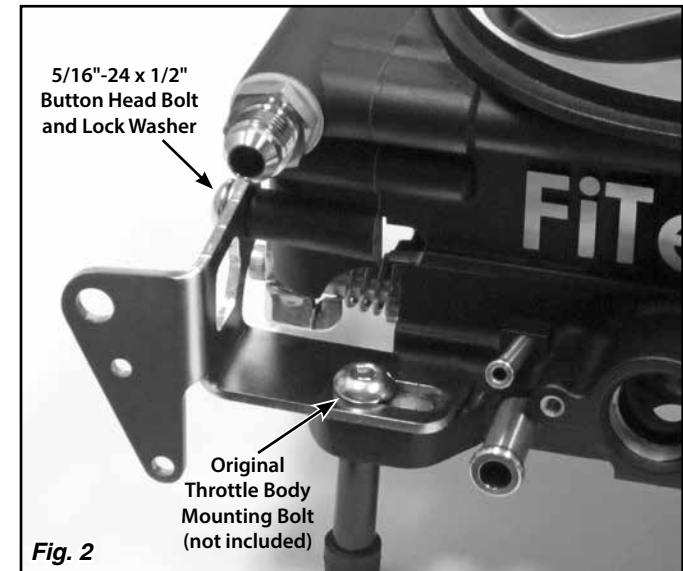
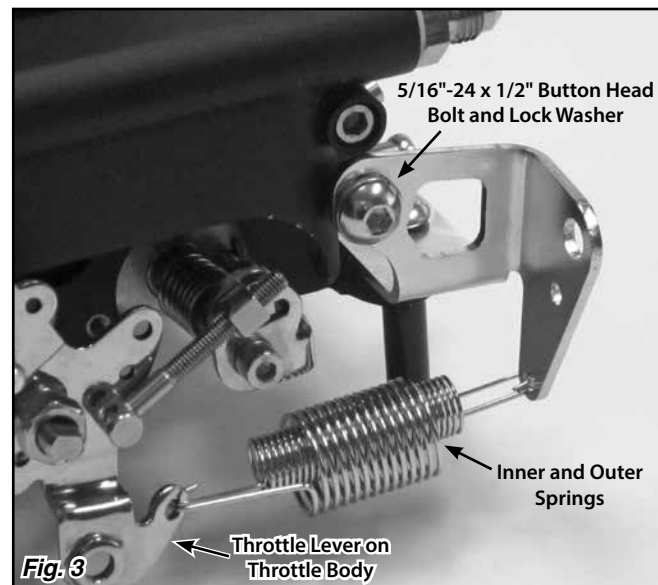

Fig. 2
Fig. 3
Step 1: Remove the throttle body mounting bolt from the left rear corner of the throttle body, and position the Lokar Throttle Cable Bracket as shown in **Fig. 2**. Loosely re-install the original throttle body mounting bolt.
Step 2: Install the provided 5/16"-24 x 1/2" button head bolt with the lock washer through the Throttle Cable Bracket and into the left side of the throttle body, and tighten the button head bolt. **Fig. 2** and **Fig. 3**
Step 4: Connect the inner and outer springs to the small hole in the throttle lever, and to the bottom hole in the Throttle Cable Bracket. **Fig. 3**